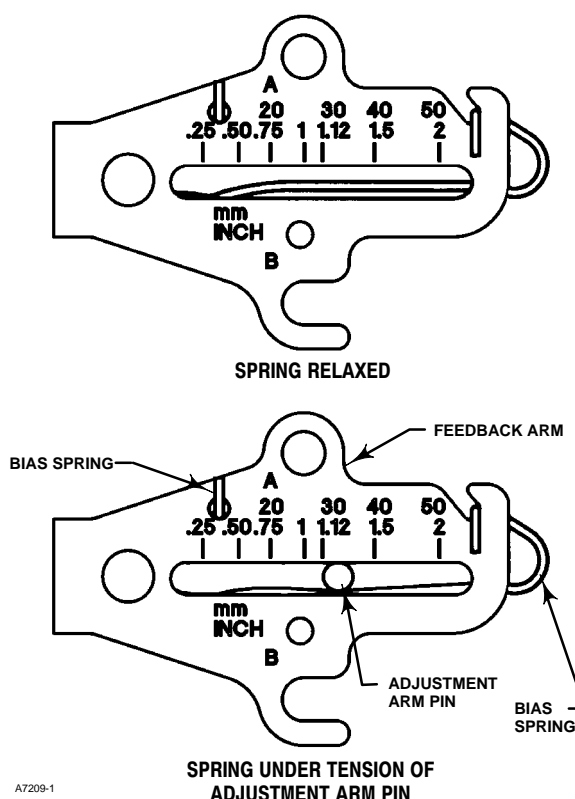

Figure 2-3. Locating Adjustment Arm Pin in Feedback Arm
4. If valve travel exceeds 2 inches, a feedback arm extension is attached to the existing 2-inch feedback arm. Remove the existing bias spring (key 78) from the 2-inch feedback arm (key 79). Attach the feedback arm extension to the feedback arm (key 79) as shown in figure 2-3.
6. Set the position of the feedback arm (key 79) on the digital valve controller to the zero drive position (zero pressure from Port A with Relay A) by inserting the alignment pin (key 46) through the hole on the feedback arm as follows:
7. Apply anti-seize (key 64) to the pin of the adjustment arm. As shown in figure 2-3, place the pin into the slot of the feedback arm or feedback arm extension so that the bias spring loads the pin against the side of the arm with the valve travel markings.
10. Remove the alignment pin (key 46) and store it in the module base next to the I/P assembly.